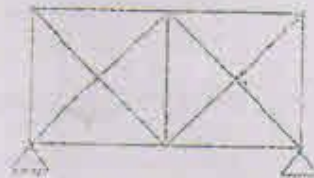

Figure 1
- (ix) In the pin jointed truss shown in figure 1, the static degree of indeterminacy is (2)